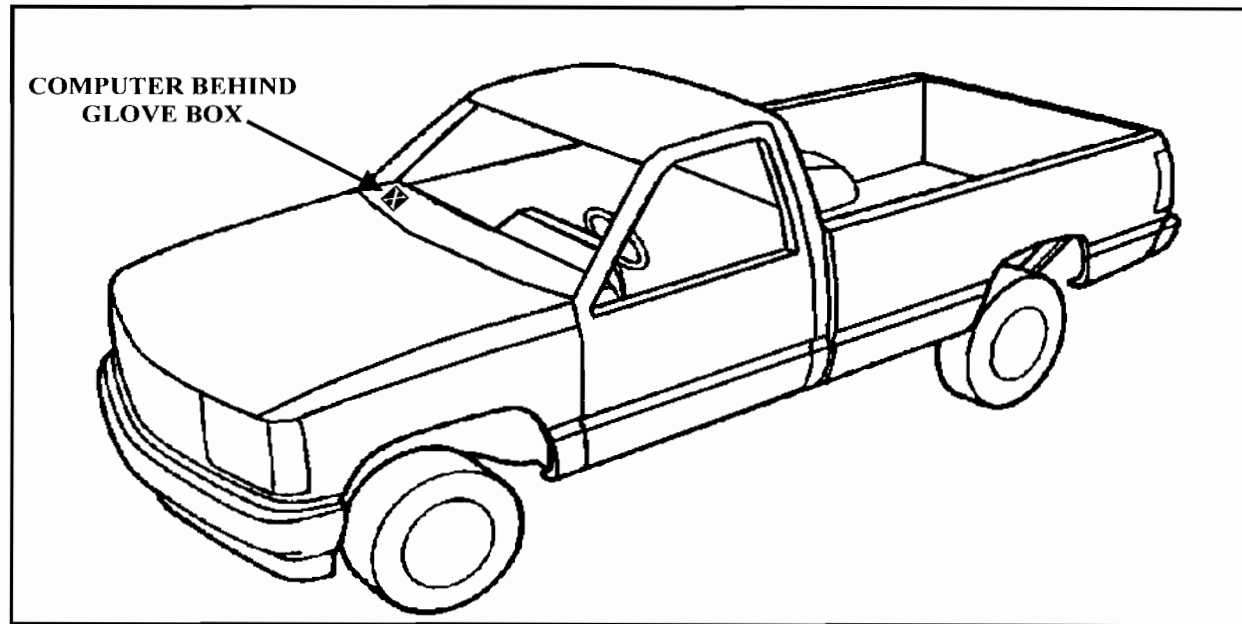

Figure 7
- 2-Locate the vehicles computer. A computer locator guide can be found in Figures 7 to 26.